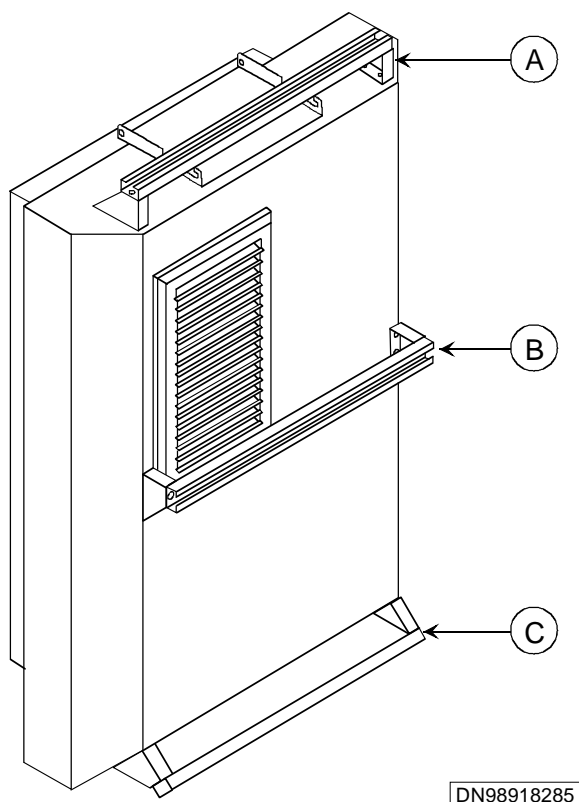

Figure 34 HMU lifting handle positions
1. Attach the lifting handle or handles at the positions shown in Figure 34. Place a piece of plastic or cardboard between the handle and the HE lifting points to avoid scratching the HE.
1. Attach the lifting handle or handles at the positions shown in Figure 34. Place a piece of plastic or cardboard between the handle and the ACU lifting points to avoid scratching the ACU.